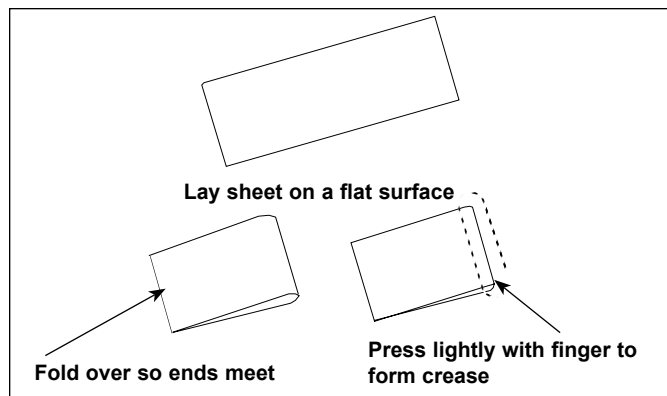

Figure 2. Folding Release Sheet
- release sheets (Figure 2)
2. Remove the release sheet from the plastic bag and lay it on a clean, flat surface. Fold the sheet exactly in half (Figure 2).
3. Crease the sheet at the fold using only your fingers (Figure 2).